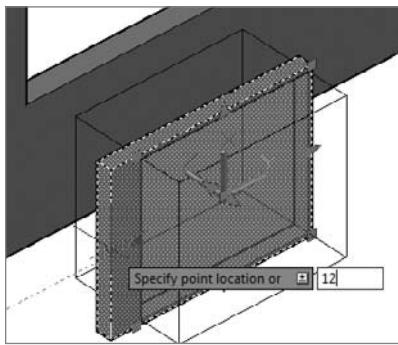

FIGURE 16.39 Adjusting the size of the window frame
4. Click one of the triangular grips that control the width of the box, drag it to make the box wider, and then enter **12** (305) to stretch the box 12" (305 mm) in the X direction, as shown in Figure 16.39.